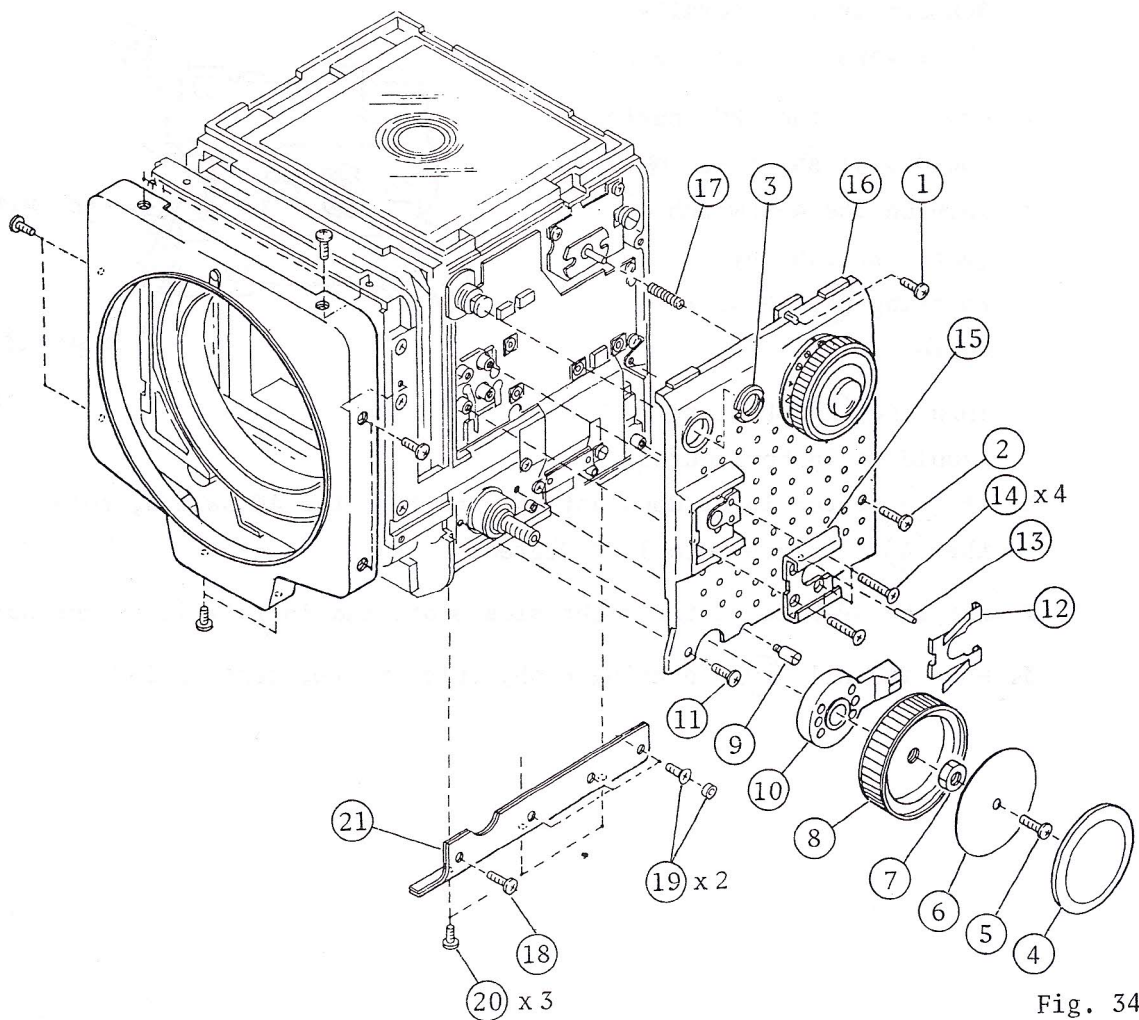

Fig. 34
1. The arabic numeral in a circle as shown in Fig. 34 indicates the procedure of disassembly.